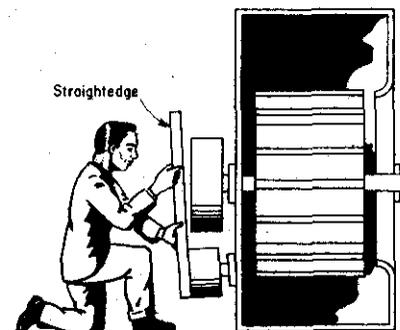

Fig. 6 - Checking Sheave Alignment
5.06 Sheave Alignment: The alignment of the sheaves should be checked at least twice a year. The motor and driven machine shafts must be kept parallel and the sheaves aligned so a straightedge or a taut cord will touch across the entire flank of each sheave. Fig. 6